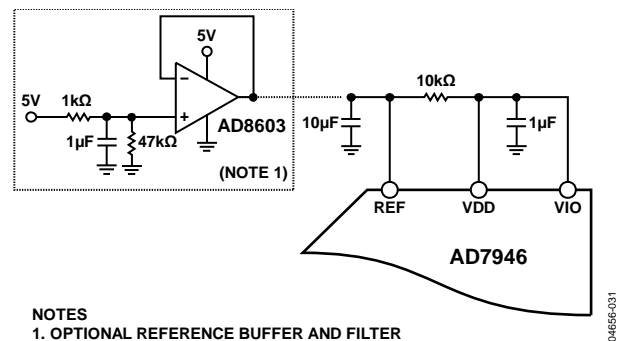

Figure 31. Example of Application Circuit
For simplified applications, the AD7946, with its low operating current, can be supplied directly using the reference circuit shown in Figure 31. The reference line can be driven by one of the following:
- A reference buffer, such as the AD8031 or AD8603, which can also filter the system power supply, as shown in Figure 31.